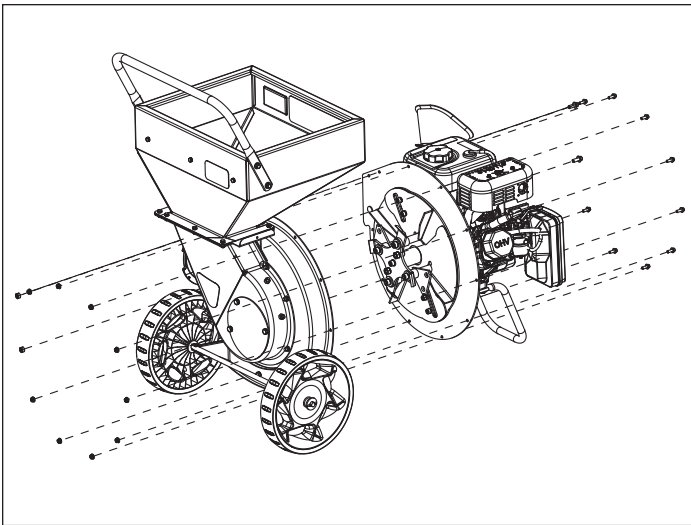

FIGURE 13 - Gaining access to the knives and hammers
3. Detach the rotor housing and hopper from the rotor plate. **SEE FIGURE 13**
4. Remove the rotor by removing the hardware that secures it to the engine crank shaft. **SEE FIGURE 13**